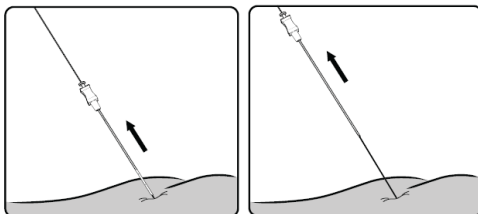

Figure 9. Remove the foramen needle
4. While keeping the directional guide in place, gently slide the foramen needle out of the foramen over the directional guide, leaving the guide in place (Figure 9).